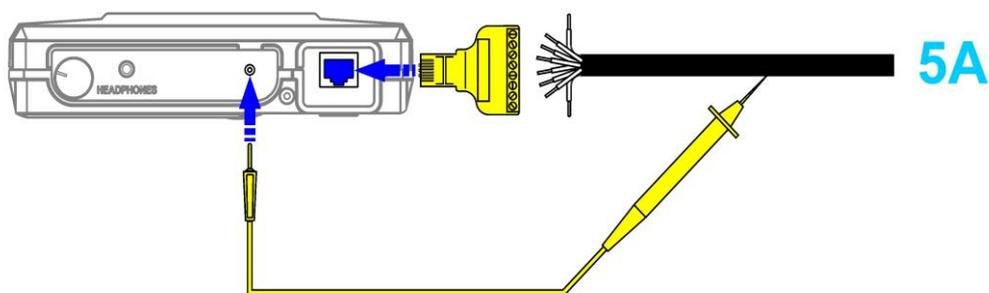

Fig.9
The scheme of connection to shielded cable (which no equipped with socket and plug) using the adapter (Fig.1, item 16) and a patch cord with a probe needle is shown in Fig.9.